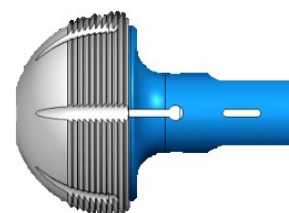

Figure 1
See Figure 1.
2. Insert the **retractor tool** (ref. 13A-11) through the pear handle (ref. C13A-Pxx).
3. Put the implant on the pear ensuring that the landmark of the pear matches with the opening groove of the cup. *See Figure 1.*